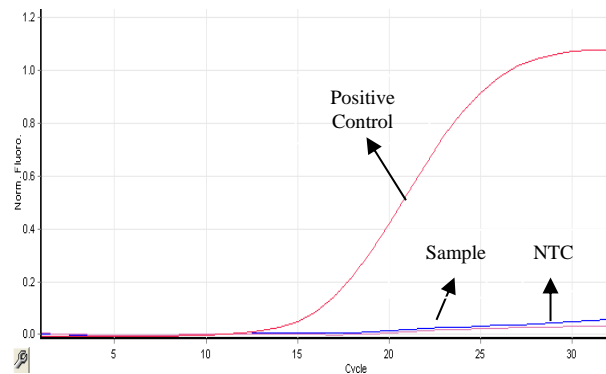

Figure 5 Curve of sample with wild-type BRAF gene
- c) If FAM Ct value ≥ 31 , the sample is determined as **negative** or below the detection limit of the kit (refer to Figure 5).